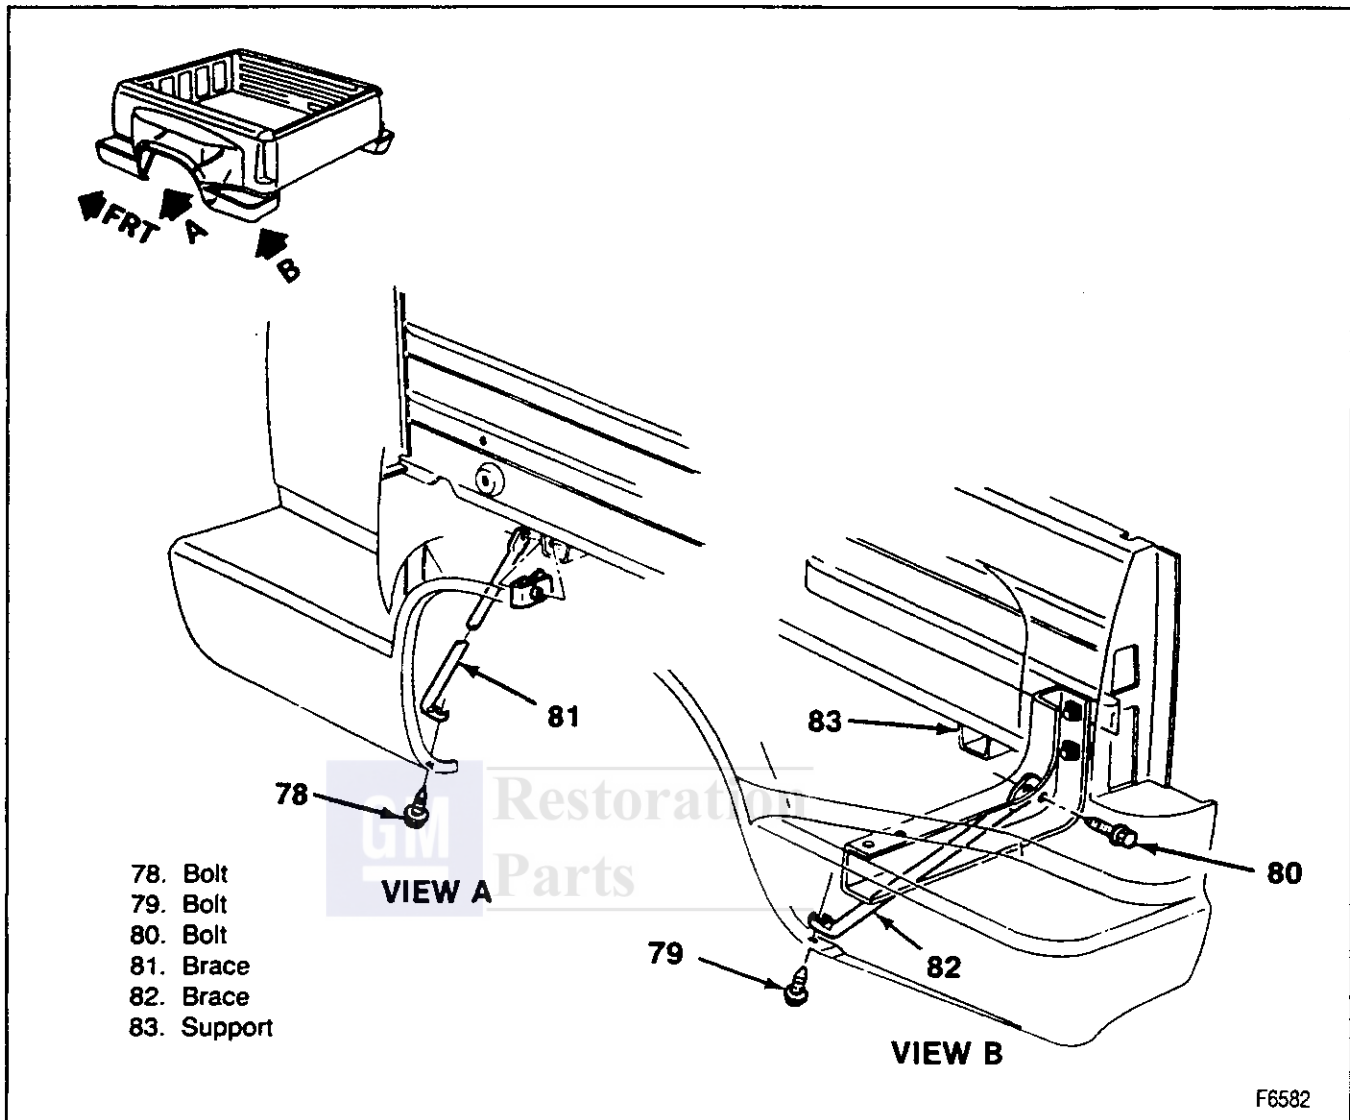

Figure 12—Fender Braces
2. Fender to brace screws (figure 12).